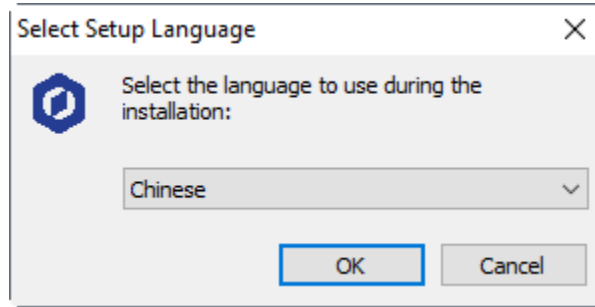

Figure 2.7 The Select Setup Language dialog box
Step 2 In the installation directory double-click **DobotStudioSetup.exe**. The **Select Setup Language** dialog box is displayed, as shown in Figure 2.7.